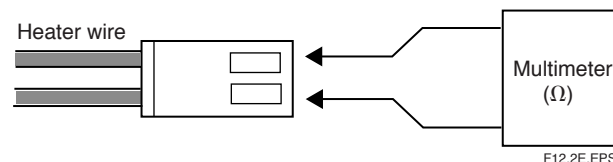

Figure 12.5
- (1) Turn off the power to the analyzer.
- (2) Remove the probe from the analyzer. Also remove all the connectors between the converter and probe. Measure the resistance of the heater wire (yellow wire) from the probe as indicated in Figure 12.5. The heater unit is normal if the resistance is lower than about 90Ω. If the resistance is higher than that value, the heater unit may be defective. In this case, replace the heater unit (refer to Section 11.1.3, “Replacement of the Heater Unit”).